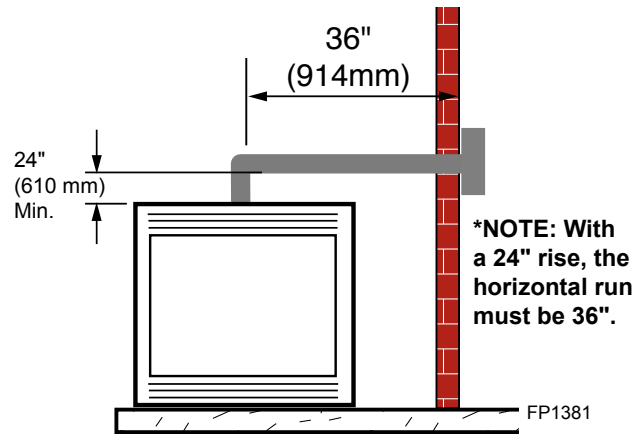

Figure 15 -
- A minimum of 24" is required before a 90° elbow. If a 90° elbow is fitted directly after 24" vertical section mounted to the top of the fireplace, the horizontal vent run before the termination must be 36" (914 mm). *Figure 15*